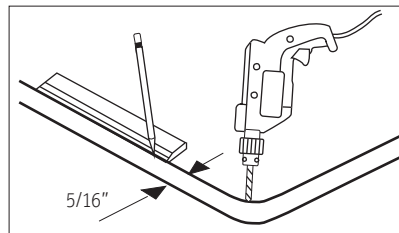

Figure 2
5. Remove sink from counter top and draw cutout line 5/16" inside the original rim outside line with 1-1/2" radius at corners. Drill hole at the inside corner of the cutout line. (Figure 2)